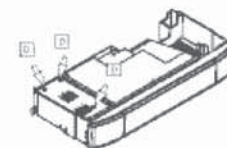

Figure 16.2
- Loosen the screws D and remove the service panel (figure 16.2).